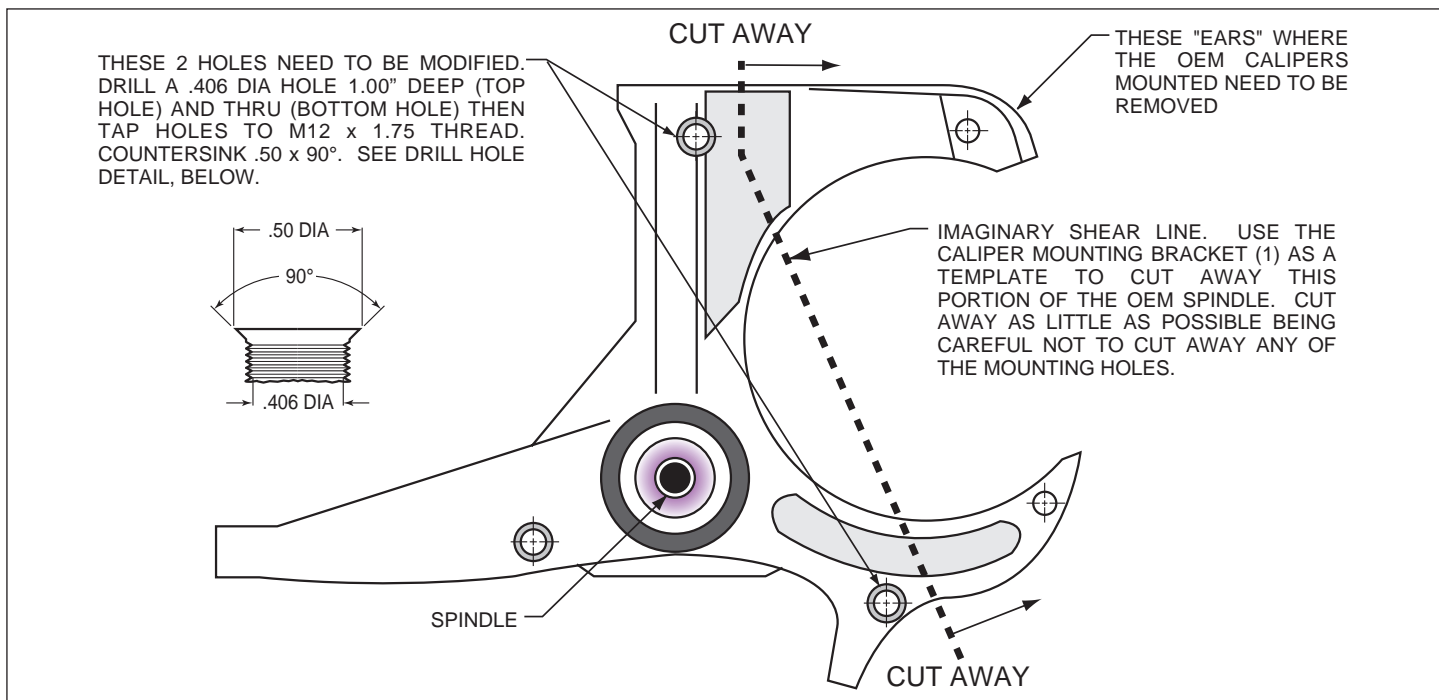
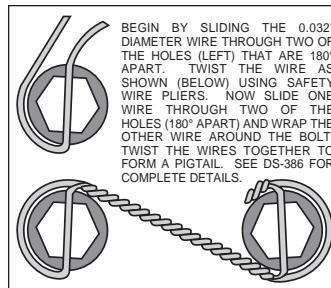

Figure 1. Steering Arm / Spindle Modifications
Figure 4. Safety Wire Diagram
**NOTE:** These modifications should be performed by a qualified machinist and completed before assembly of the Wilwood disc brake kit begins. Refer to Figure 1. Only one view of the steering arm/spindle is shown, but the modifications need to be performed on both steering arm/spindles.
The two OEM holes that will be used to mount the caliper mounting bracket (1) need to be modified. Drill a .406 diameter hole, 1.00" deep (top hole), and thru (bottom hole), Figure 1, then tap holes to M12 x 1.75 thread. Countersink the holes to .50 x 90°. The "ears" that protrude to form a "C" shape need to be removed to facilitate the installation of the Wilwood kit. Using the bracket as a template, mark two cut marks on the steering arm. Remove as little as necessary from the "C" shape, being careful not to cut away any of the mounting holes required to bolt on the bracket.
- Orient the rotor (9) and the hat (10) as shown in Figure 1 and Photo 4. Attach rotor to hat using bolts (11) and washers (12). Using an alternating sequence, apply red *Loctite*® 271 to the threads and torque bolts to 155 **in-lb**. For an added measure of security, the bolts may be safety wired using standard 0.032 inch diameter stainless steel safety wire as shown in Figure 4. Refer to Wilwood's data sheet DS-386 (available at [www.wilwood.com/Pdf/DataSheets/ds386.pdf](http://www.wilwood.com/Pdf/DataSheets/ds386.pdf)) for complete safety wire installation instructions.
- Pack the small outer bearing cone (13) with high temperature disc brake bearing grease and install into hub (6). Slide the hub assembly onto the spindle. Secure using spindle washer (14) and OEM spindle nut, Photo 5. Adjust bearings per OEM specifications. Install saved OEM nut lock (if any) and a new cotter pin (not included).
- NOTE:** This kit contains distinct right and left hand calipers that must be mounted in a specific direction, as described below. Lubricate the caliper mounting studs (21) with lightweight oil. Initially place one spacer (23) and two .035" thick shims (22) on each stud between the caliper and the bracket, as shown in Figure 1 and Photo 7. Mount the caliper (18) onto the bracket (1) using lock nuts (19) and washers (20), Figure 1. Ensure that the caliper is mounted so the largest pistons are at the rotor exit end of the caliper, in relation to the direction of rotor rotation. Temporarily tighten the lock nuts and view the rotor through the top opening of the caliper. The rotor should be centered in the caliper, Photo 8. If not, adjust by adding or subtracting shims (4) between the bracket and the upright. Always use the same amount of shims on each of the two mounting bolts. Once the caliper alignment is correct, remove the bracket mounting bolts one at a time, apply red *Loctite*® 271 to the threads, and torque to 60 ft-lb.